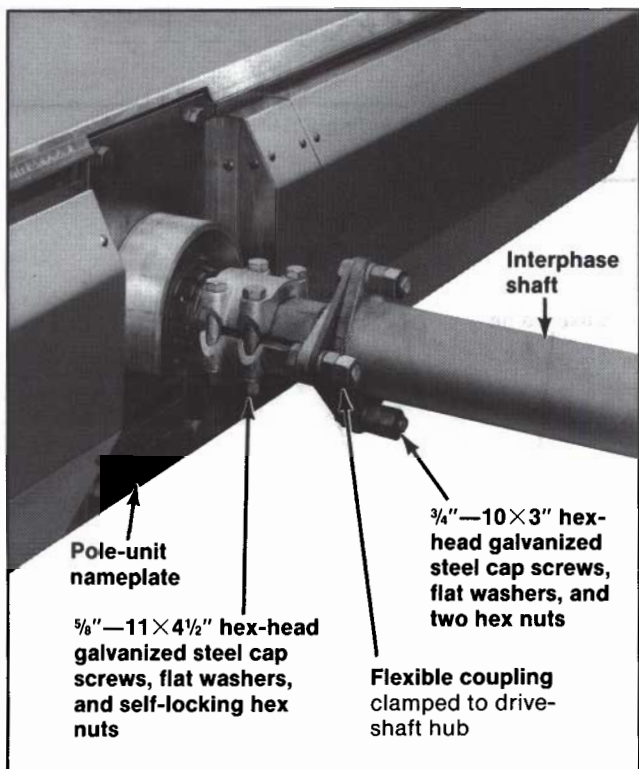
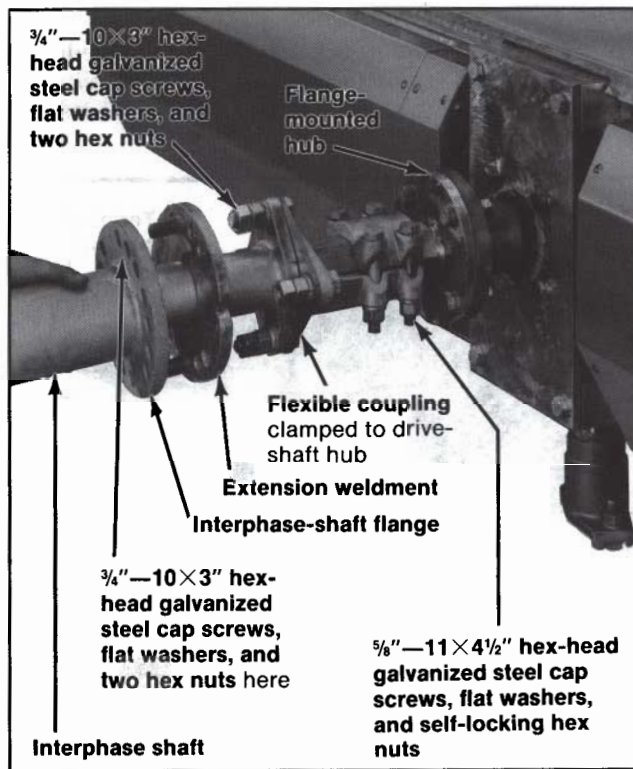
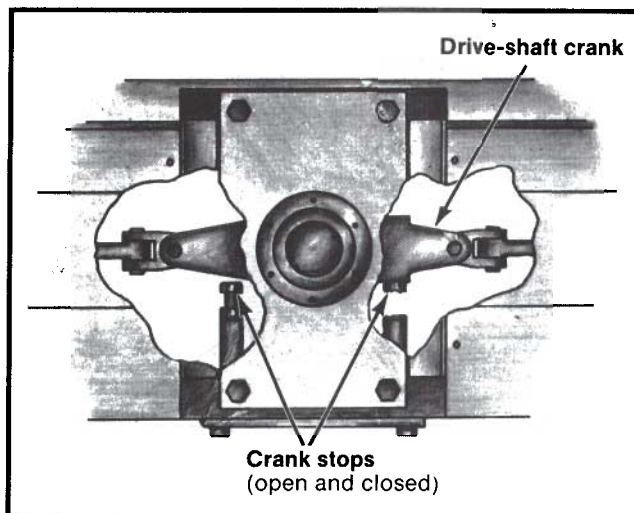

Figure 12. Interphase-shaft coupling detail, typical outer pole-unit of 345-kv rating.
Figure 13. Interphase-shaft coupling detail, typical center pole-unit of 345-kv rating.
Figure 15. Drive-shaft crank stops.
couplings. See Figure 13. Typically, both extension weldments are attached to the center pole-unit. Note that, on the base containing the gearbox, one side must first be fitted with a flange-mounted hub. See Figure 13. Attach this flange-mounted hub such that its hex "flats" are aligned with the flats of the hex on the adjacent pole-unit hub.
Slide the interphase shaft over the tubular projection on the extension weldment to temporarily support that end of the shaft. (It may be necessary to loosen the clamp bolts on the drive-shaft hub to permit this to be done.) See Figure 13. Then attach the opposite end of the interphase shaft to the flexible coupling on the adjacent pole-unit. See Figure 12. Tighten all clamp bolts.
- (d) Make sure that the drive-shaft crank in each of the three Circuit-Switcher pole-unit bases is resting against its open stop. See Figure 15. Then locate a pair of holes in each interphase-shaft flange which line up with a matching pair of holes in the mating extension weldment and bolt together tightly. The matching holes should be as nearly diametrically opposite as possible. See Figure 13.
- (e) After the interphase shafts have been securely bolted in place (tightness of clamps and flange bolts is very important) recheck the position of the drive-shaft cranks in each of the three Circuit-Switcher pole-unit bases. Each should be resting firmly against its stop. See Figure 15.